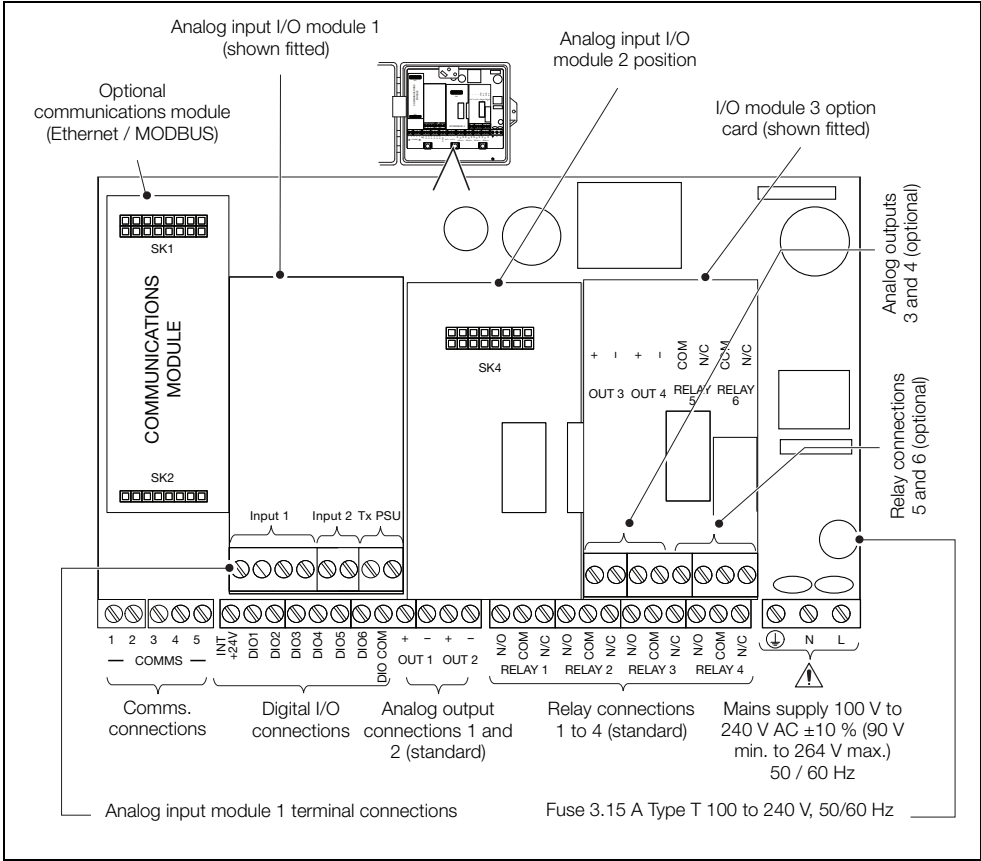

Fig. 4.19 CMF310 Electrical Connections
1. Using a pozi-drive screwdriver, turn the terminal cover retaining screw (A) counter-clockwise (1/4 turn) and open the cover.
2. Turn the connection board cover plate retaining screw (B) anti-clockwise until the cover plate (C) can be removed.
3. Make connections to connection board terminals – see Fig. 4.19, page 20.
4. Refit cover plate (C) and secure it by turning retaining screw (B) clockwise until finger-tight. Close the door and turn door retaining screw (A) 1/4 turn clockwise to secure.